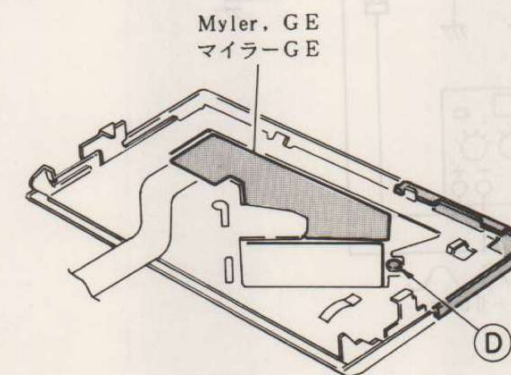

Fig. 12
- 3) Press section D of the GE panel to release the fitting and move the GE panel in the direction of the arrow. (See Figure 12)
4) Peel off the mylar GE and remove the GE panel. (See Figure 12)